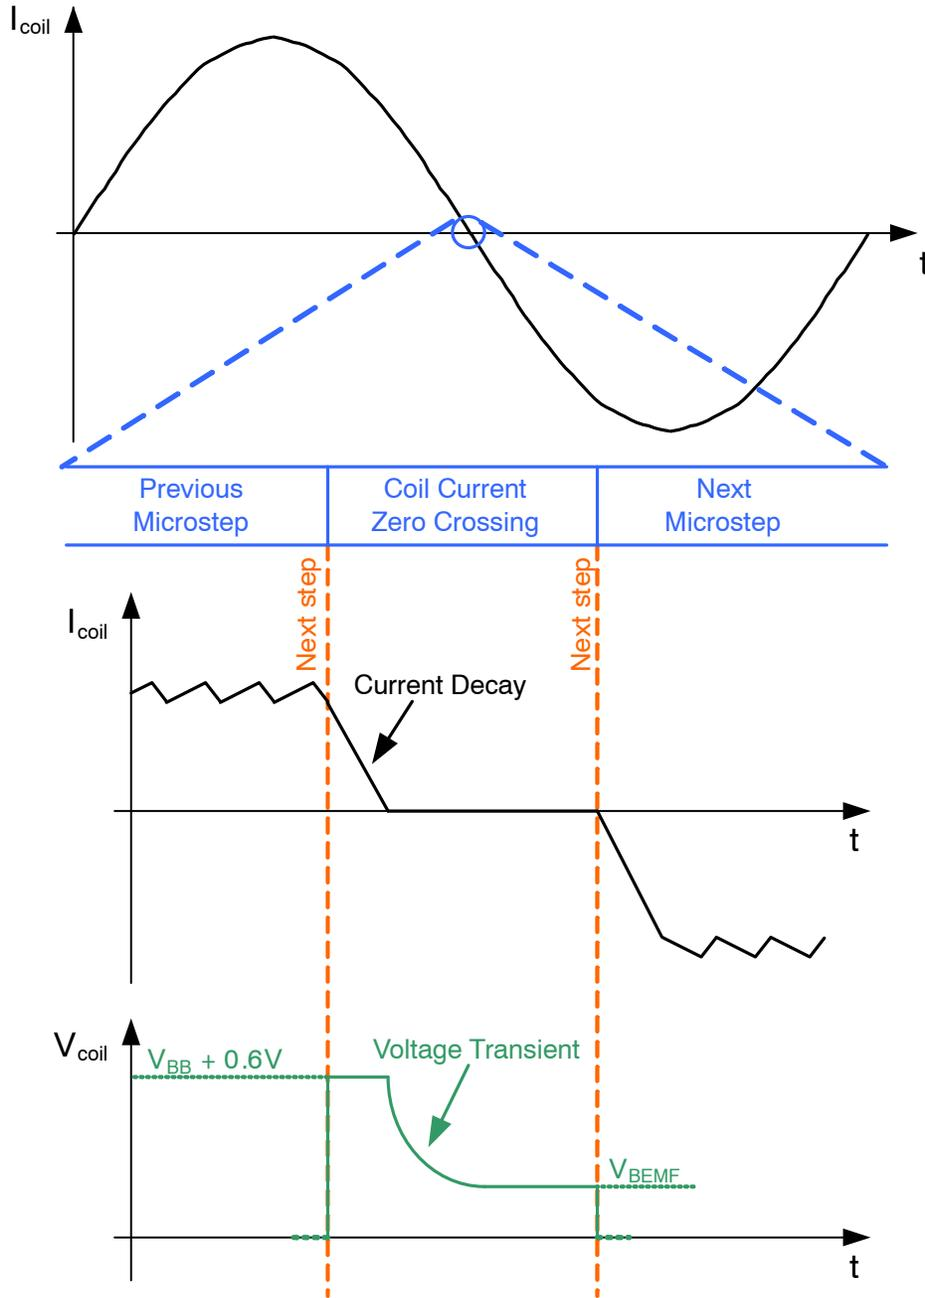
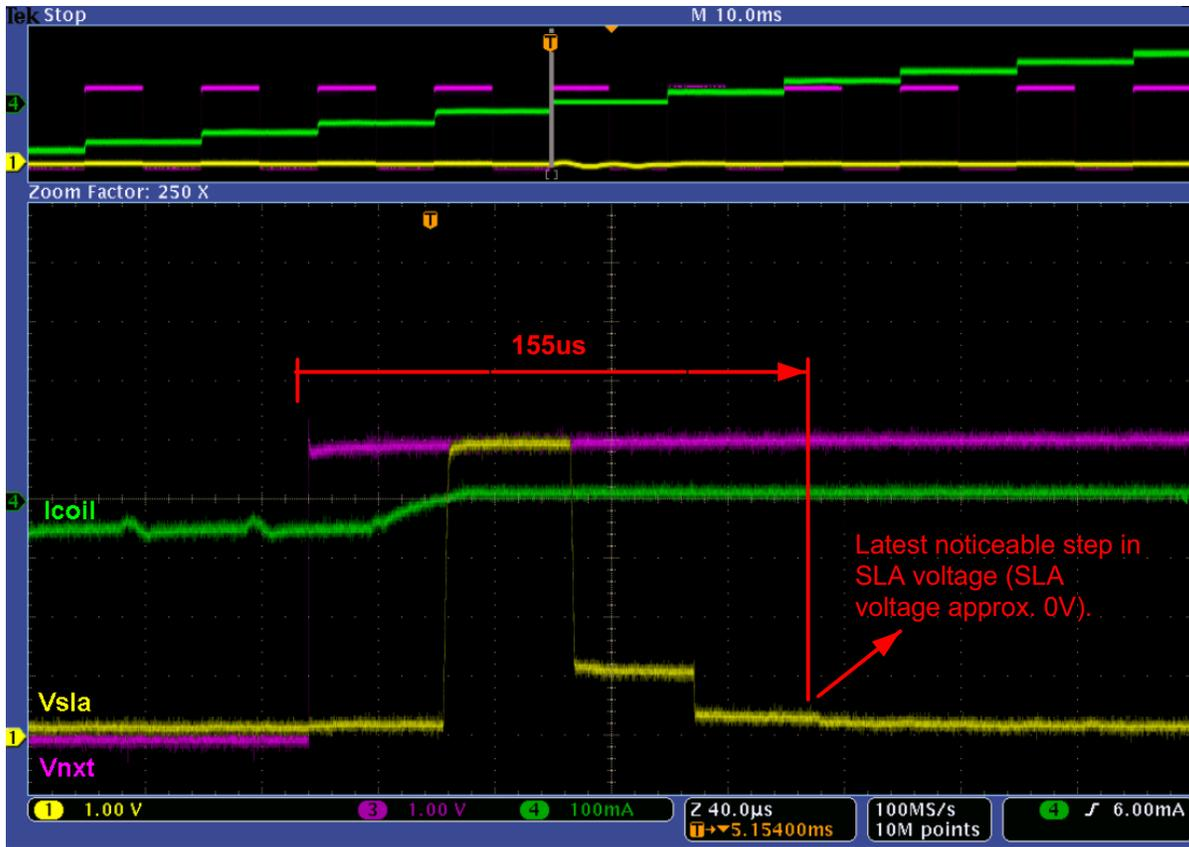
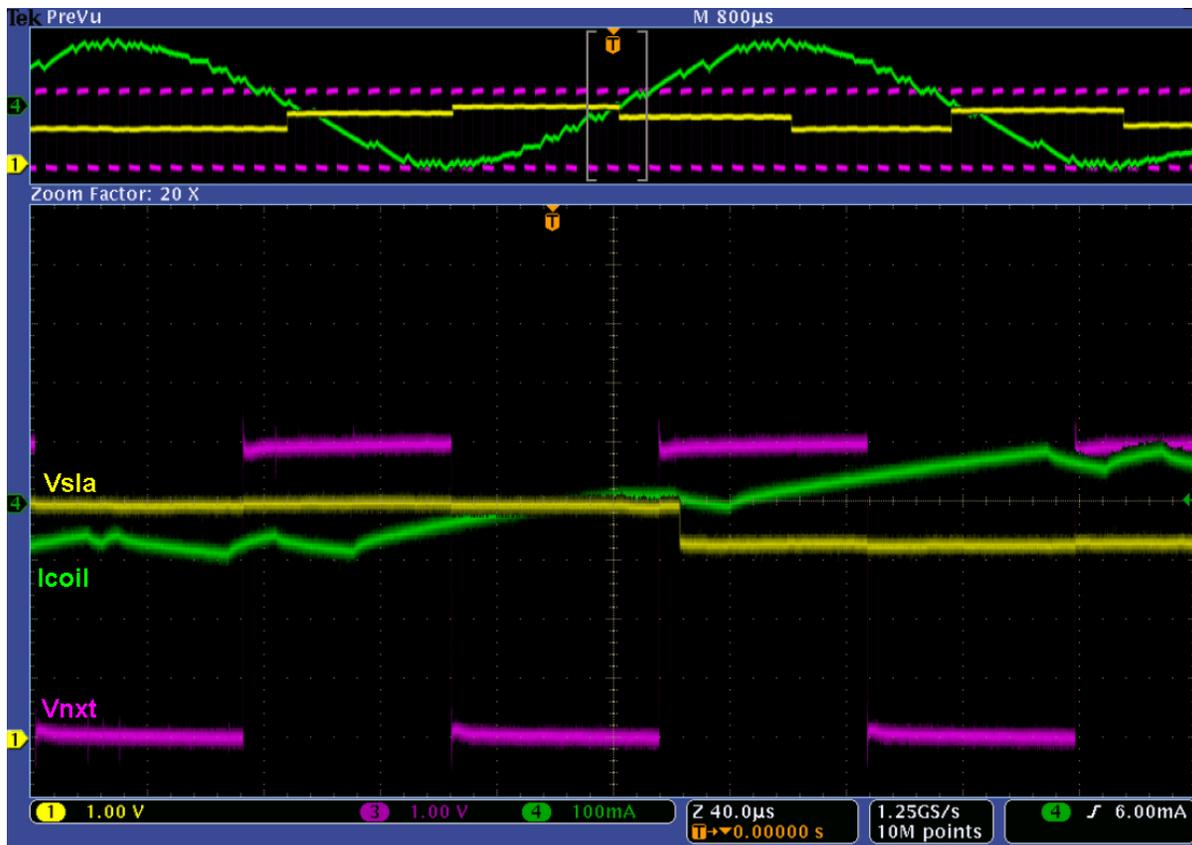

Figure 11. Coil Voltage Behavior During Current Less State
Figure 14. Define Maximum Operating Speed
Figure 17. Too High Speed Results in Incorrect BEMF Sampling
As explained in *Transparency Mode*, one needs to be careful when to measure the BEMF. After the start of the coil current zero crossing it takes some time before the real BEMF can be measured (see Figure 11). Leaving the coil current zero crossing stage too early will result in an incorrect BEMF sampling (= the measured voltage on the SLA-pin will not represent the real BEMF). This will limit the maximum operating speed.
- Step 9: Measure the coil current in one of the coils, measure the voltage on the SLA-pin and monitor the NXT-pin. Best is to trigger the oscilloscope on the coil current zero crossing. Figure 14 gives the results measured with a Nidec Servo stepper motor operated at 12 V and 415 mA coil current. Stepping mode was set to 1/8 microstepping. A zoom is taken on the coil current zero crossing. At the rising edge of the NXT signal (purple curve) the coil current will be regulated to zero. Notice that the SLA voltage (yellow curve) claps to 5 V. This is because the coil voltage (not visible on the oscilloscope plot) will clamp to Vbat + 0.6 V (see Figure 11). After this you see the SLA voltage drop to zero. This is the transient part (see Figure 11). Keep in mind that the SLA voltage is only update at the PWM frequency rate (this gives the steps in the SLA voltage).
As can be seen in Figure 14 this time is about 155 µs.
too fast resulting in an incorrect SLA voltage (see Figure 17). The jumps in the SLA voltage is because the coil current zero crossing is left too early and the transient part is sampled (see also Figure 11).